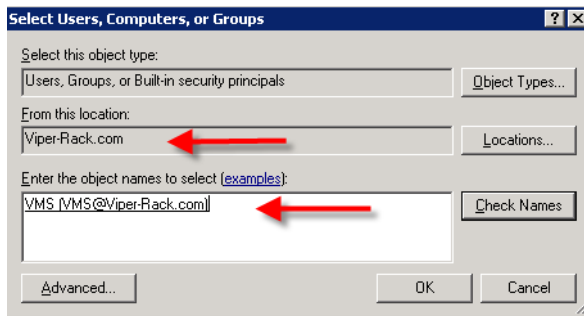

Figure 2-30 Select Users
6. Ensure the Location is the domain, then type “VMS” in the object box and select **Check Names**. If the location was correct you should see the result shown in figure 2-30.